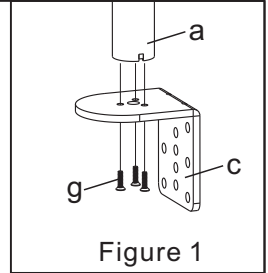

Figure 1
1. Install the "C"-Clamp Brace(c) to the Pole(a) using 3pcs M5x14 Bolts(g), and tighten using the Allen Key(o), see Figure 1.